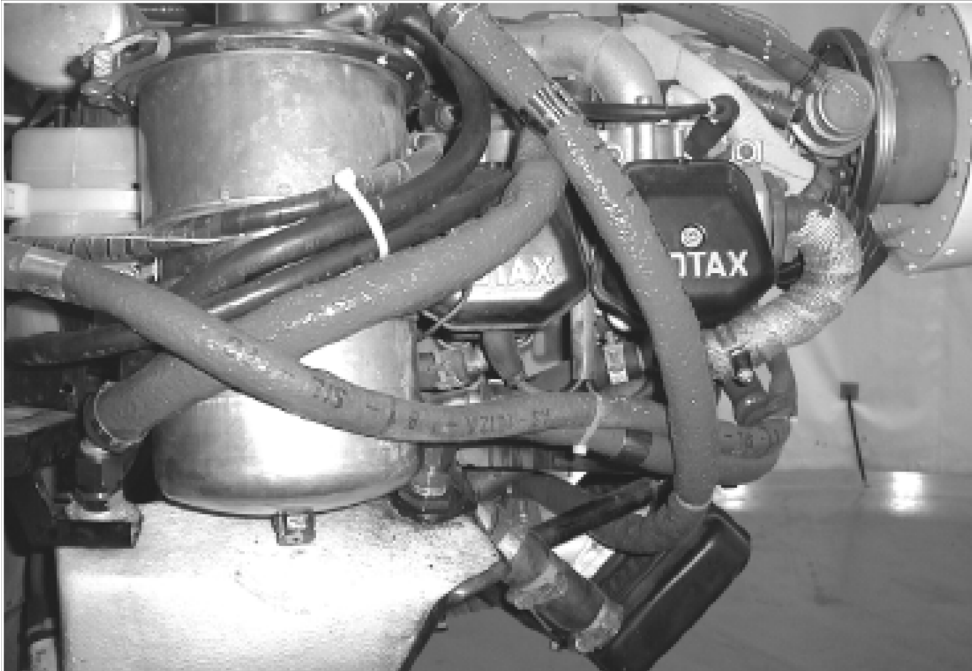

Figure 2 - Routing and securing oil lines (RH, looking inboard)
- 10.8 Route and secure oil lines as shown in Figures 2 and 3 using supplied tie-down straps, MS3367-5-9. ORIENT FITTINGS AND HOSES TO AVOID CONTACT WITH RADIATOR, ENGINE MOUNT AND CABIN HEATER SHROUD.